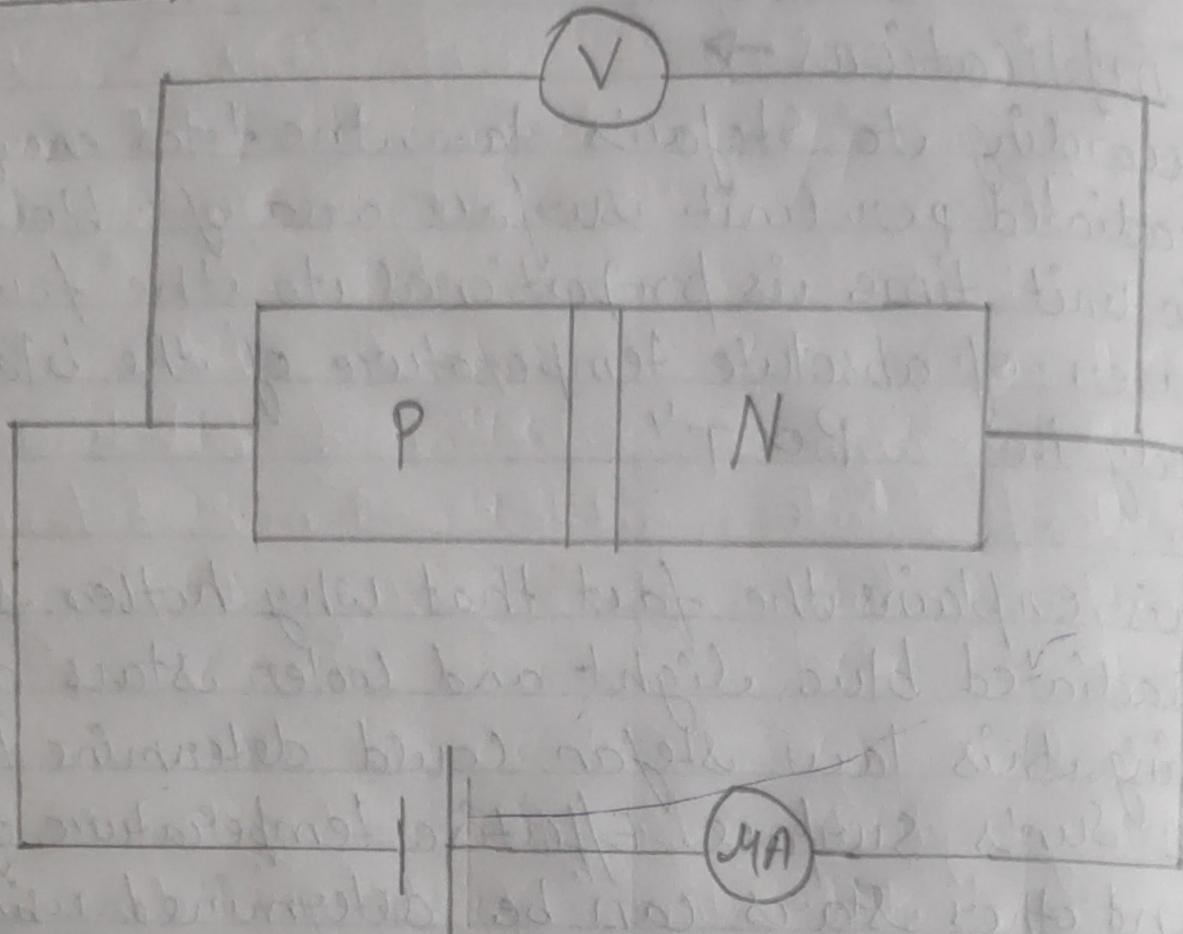

Fig 1.
1. Rig up the circuit, as shown in fig. 1. using the diode, meters & the power supply.